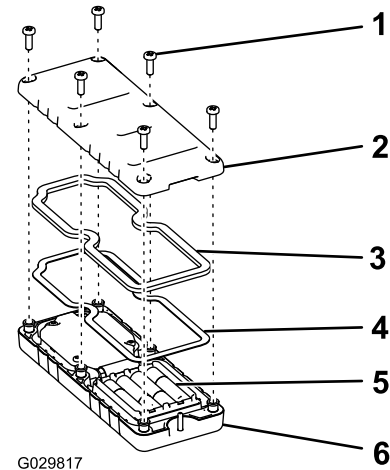

Figure 7
2. Plug each battery into a terminal cradle, observing proper polarity (Figure 7).
3. Ensure that the steel gasket and rubber seal are seated in the channel in the remote and set the back cover in place (Figure 7).
4. Secure the cover with 6 screws (Figure 7) and torque them to 1.5 to 1.7 N·m (13 to 15 in-lb).